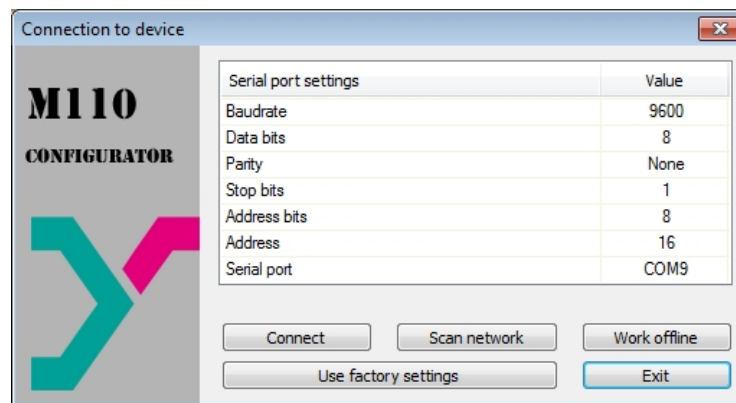

Fig. 7.1 "Connection to device" dialog window
- set the parameters to default (see Table 7.1) or click "Use factory settings" (see Fig. 7.1) in the dialog window "Connection to device"